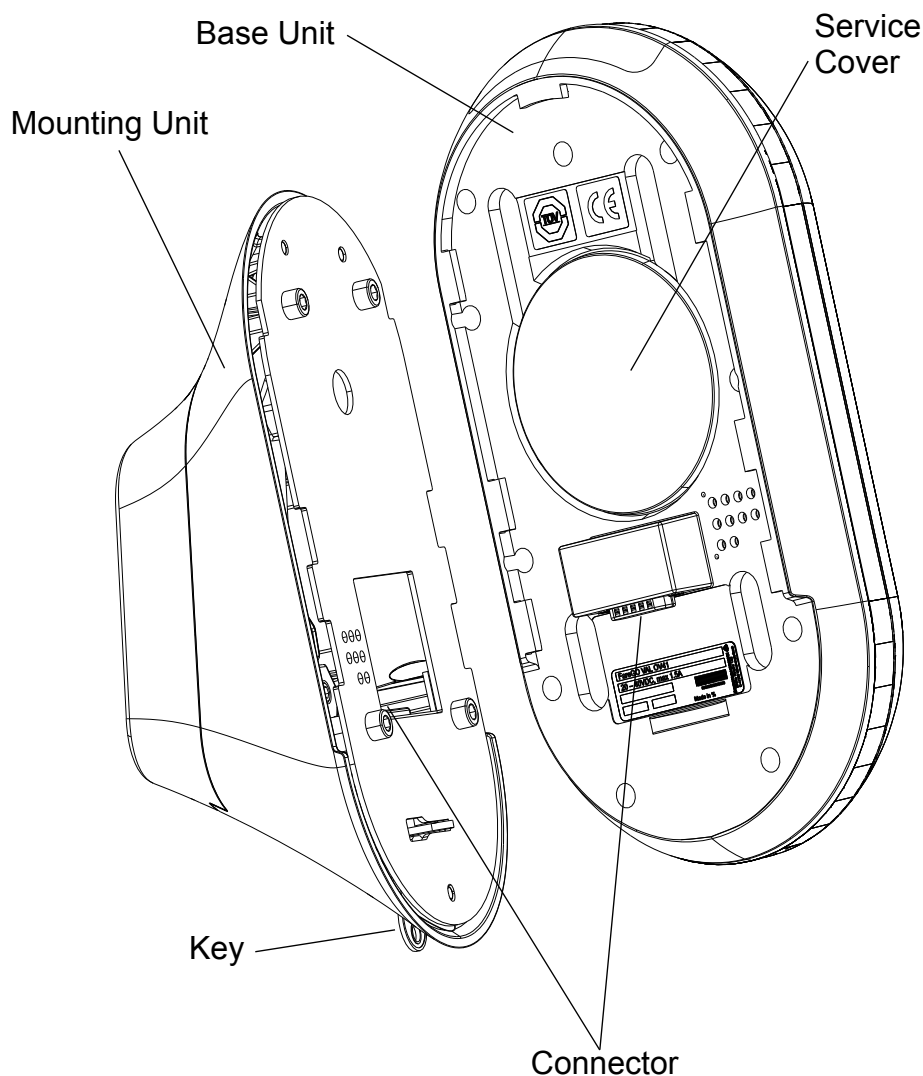

Figure 4-16 Module Removal - Base Unit
The drawing in **Figure 4-16** illustrates how to unlock the OV|41Base Unit and remove it for field replacement.
- STEP 7:** Lock the base unit by turning the key showing in **Figure 4-16**.